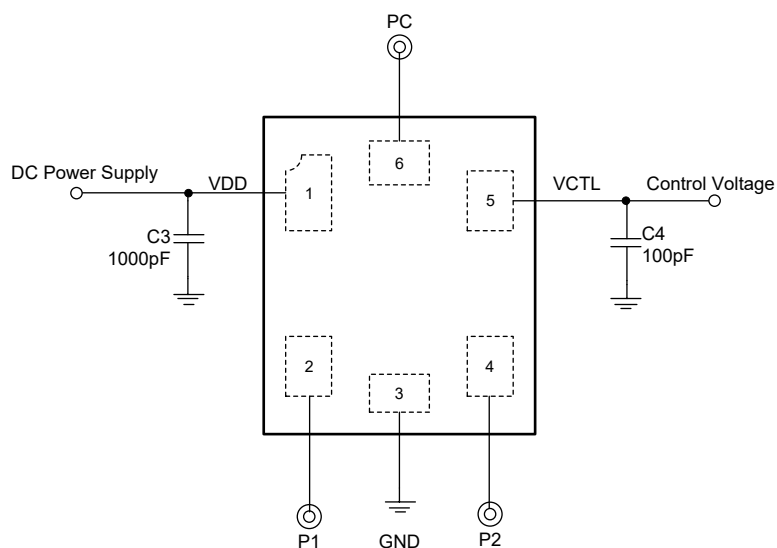

Figure 2. SGM11102S Typical Application Circuit
**ELECTRICAL CHARACTERISTICS**(For test circuit, see Figure 2.  $T_A = +25^\circ\text{C}$ ,  $V_{DD} = 2.8\text{V}$ ,  $Z_S = Z_L = 50\Omega$ ,  $V_{CTL(L)} = 0\text{V}$ ,  $V_{CTL(H)} = 1.8\text{V}$ , unless otherwise noted.)